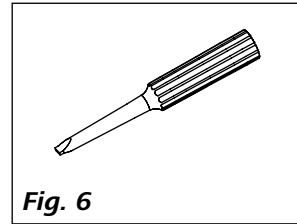

Fig. 6
- Screwdriver (use for safety circuit) see **Fig. 6**